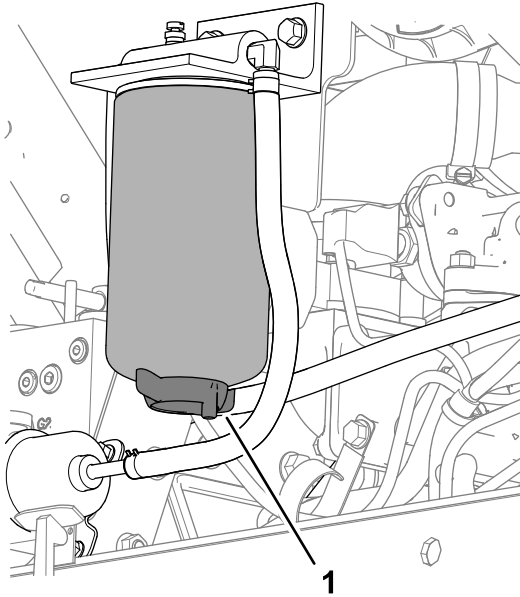

Figure 79
3. Place a drain pan under the fuel-water separator filter (Figure 79).